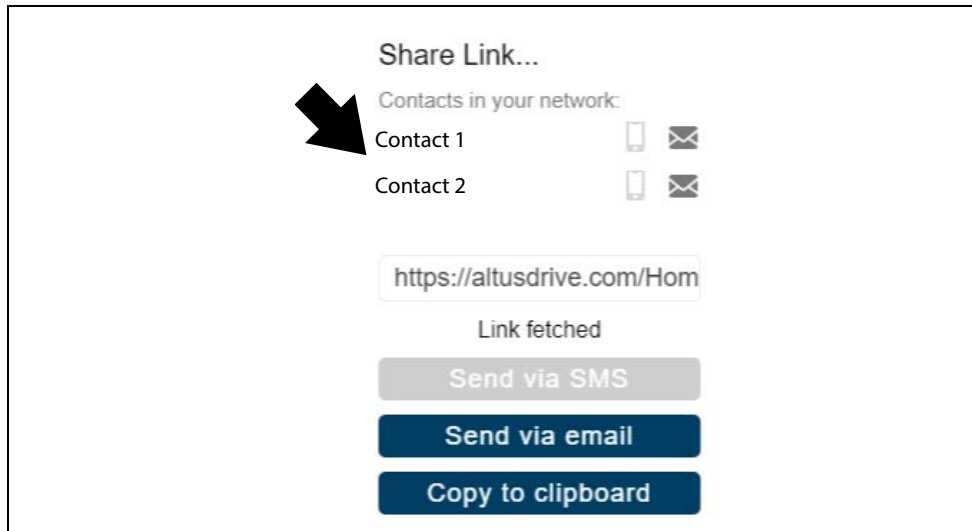

Figure 16-19
2. Select an option (Figure 16-19) from the pop-up window.